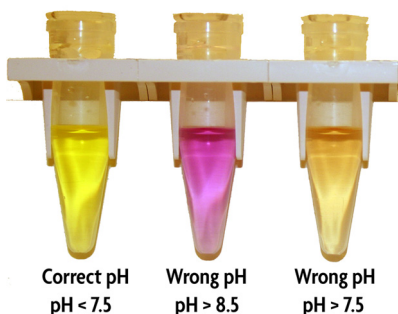

Figure 1: Solution color as a function of pH.
3. Add 5 μ l 3M Sodium Acetate and mix. Check that the color of the DNA sample / DNA Purification Binding Buffer mixture is bright yellow, not light orange or violet. If the color is light orange or violet, this indicates that its pH is too high. Add more 3M Sodium Acetate 5 μ l at a time, mixing after addition, until the color is bright yellow (see Figure 1). As the elution buffers used in many ChIP protocols (including those in the ChIP-IT Kits) have a basic pH, **this step is crucial to the successful binding and purification of your ChIP DNA sample.**
No amplification by PCR of ChIP DNA	<p>If you are experiencing problems with downstream analysis of ChIP DNA, it is possible that the purification process was compromised and your DNA samples were not recovered. This could be due to one of several factors.</p> <ol style="list-style-type: none">The pH of the Binding Buffer was too high. Refer to Figure 1 on page 4 to make sure that the pH of your sample is below 7.5 to ensure proper binding of ChIP DNA to the column. Your sample should be bright yellow (not orange, peach or purple). Add 3M Sodium Acetate in aliquots of 5 μl until the pH reaches the proper point and the sample is bright yellow. (A full-color PDF of this manual can be downloaded from the Active Motif website, which will enable you to see what is meant by “bright yellow”.)No ethanol in the DNA Purification Wash Buffer. Make sure that ethanol has been added to the DNA Purification Wash Buffer prior to use. See step A1 on page 4.Residual DNA Purification Wash Buffer in the column prior to elution. Make certain to spin the column one extra time after washing to remove any residual Wash Buffer, as it will interfere with elution of the DNA from the column. Open the cap of the column to enable proper removal of residual Wash Buffer.Salt in the Elution Buffer. DNA will not be eluted from the silica matrix of the DNA purification column if the buffer used for elution contains high salt. Use the included DNA Purification Elution Buffer or purified water (pH 7) for elution.